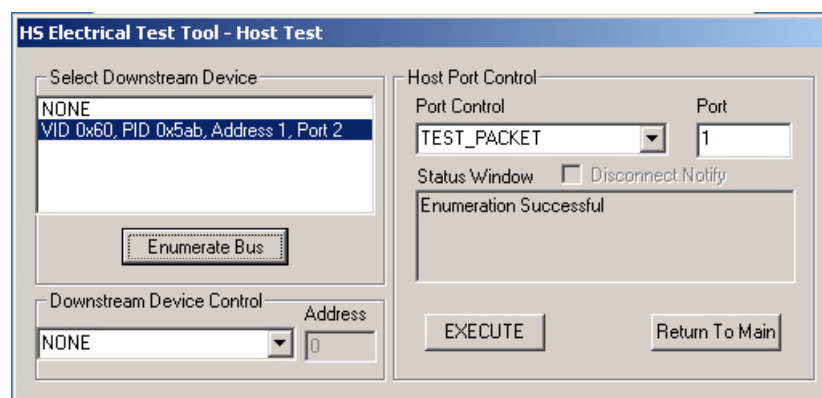

Figure 11. Known, Good Device Enumerated
- a. Click [Enumerate Bus] and verify that the device enumerates properly (Figure 11)